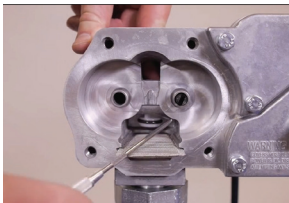

Figure 18
- b. Push down on the poppet until the poppet O-ring is exposed inside the housing (see Figure 18).